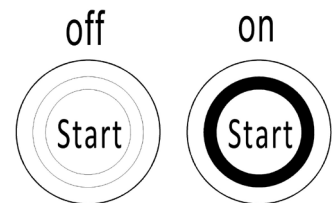

Fig.8: Button switch
Pull out the emergency button (Fig.1, 20), Press the button switch, and a green light will appear on the switch (Fig.8), type the password on pin-code panel and press ✓ button to start the truck. Truck can also be activated with RFID access card.
12ES-XN: Always lower the forks fully. Press the button, green LED ring is off (Fig.8), and press the emergency switch (20).